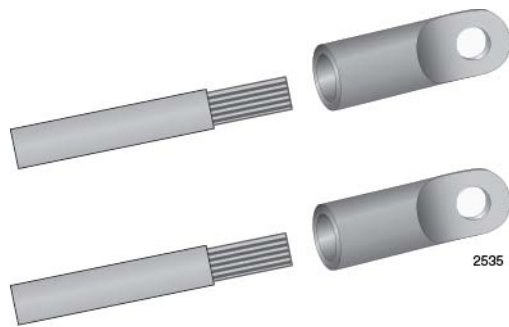

Figure 108. Attaching the Power Wires to the Straight Terminal Lugs
2. Insert the power wires into the terminals included with the power supply and use a crimping tool to secure the wires to the terminals. See Figure 108.